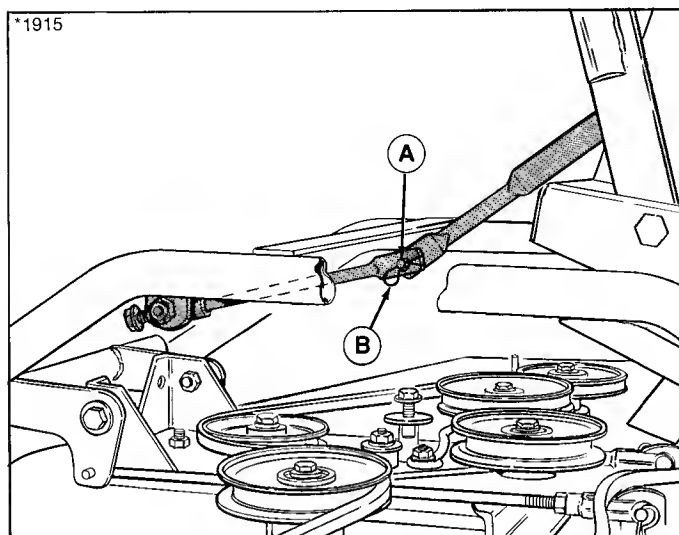

Figure 24. Lift Arm Halves
6. Disconnect the top and bottom halves of the mower lift arm as shown in figure 24. Reinstall spring clip (B) onto weld stud (A).
5. Connect top and bottom halves of mower lift arms. Refer to figure 24.